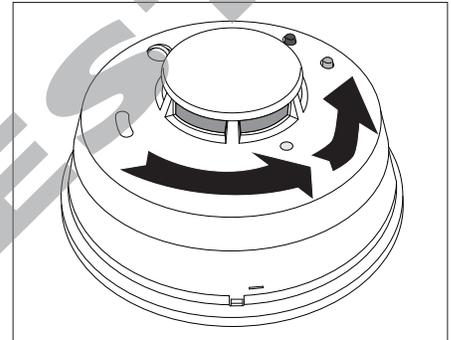

Figure 4: Remove Detector from Base
1. Remove the detector from the mounting base. See Figure 4.